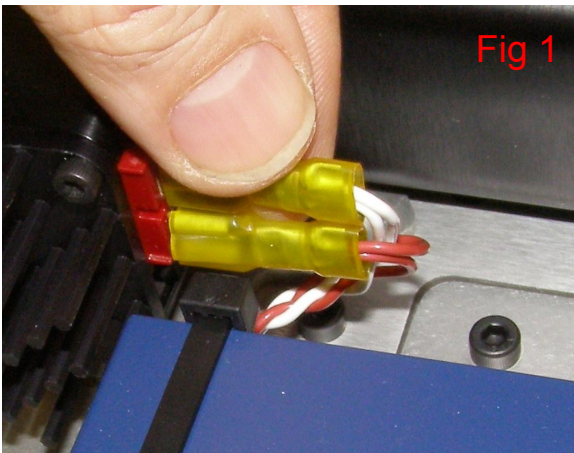

Fig 1
- Unplug the two Yellow Quick Disconnect connectors on the rear of the Projector body. You may have to wiggle them to get them off. (Fig. 1)
- Plug the two power connectors back in, with the White wires on top and the Red wires on the bottom. (Fig. 1)